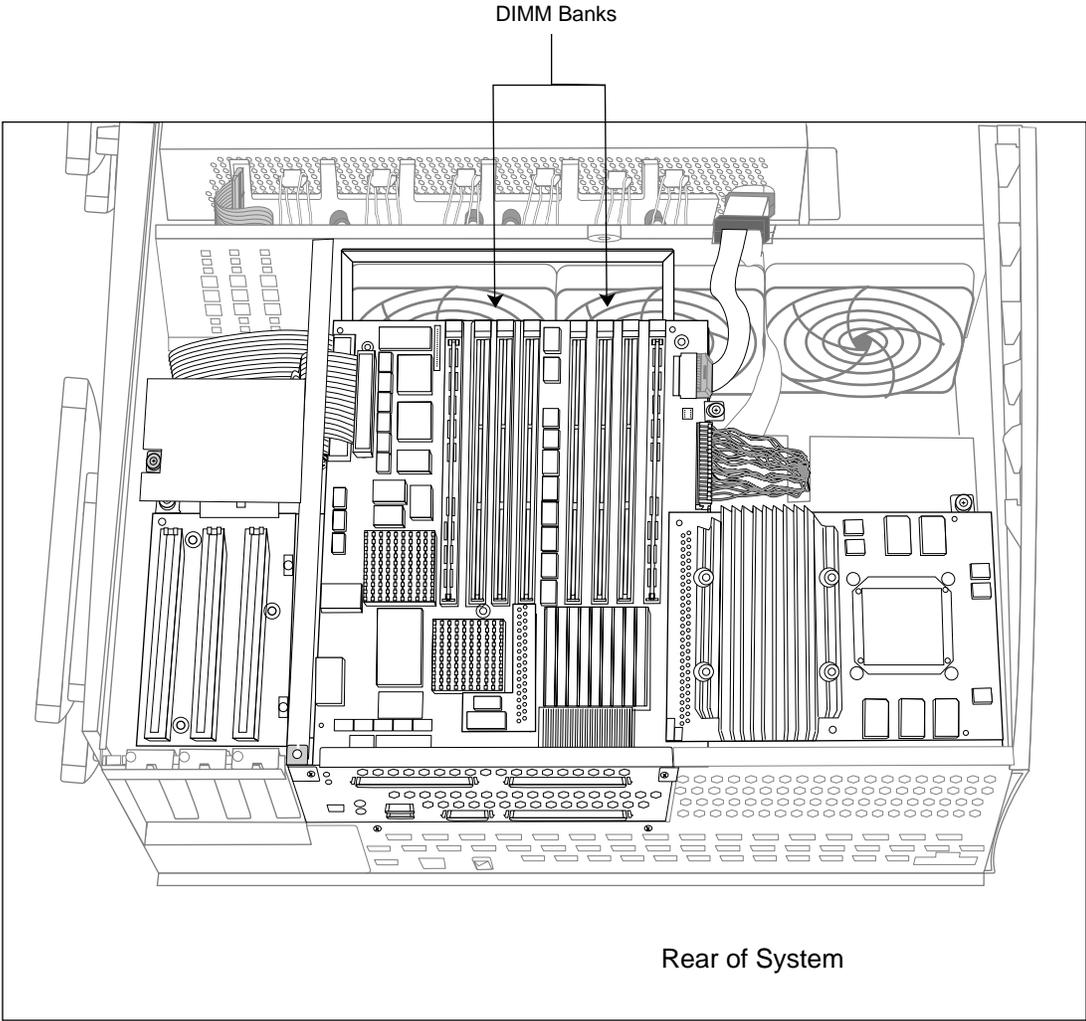

Figure 5-2 Locating DIMMs In the Origin200 Server
5. Locate the DIMM slots. See Figure 5-2.